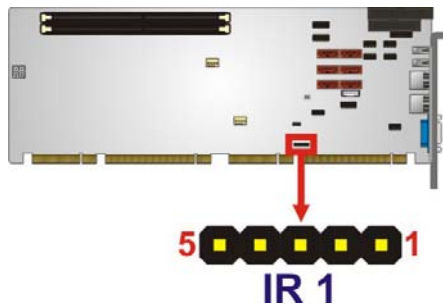

Figure 3-8: Infrared Connector Location
- CN Location:** See **Figure 3-8**